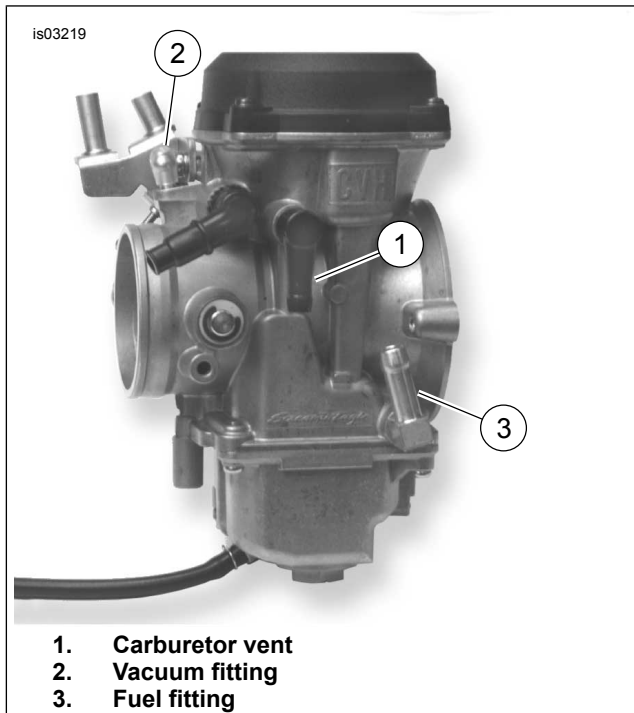

Figure 1. Carburetor Fittings
See Figure 1. This carburetor is equipped with an external vent (1). Blocking or attaching a hose to the vent will affect carburetor operation.
2. See Figure 1. Install fuel petcock vacuum line to vacuum fitting (2) on carburetor.